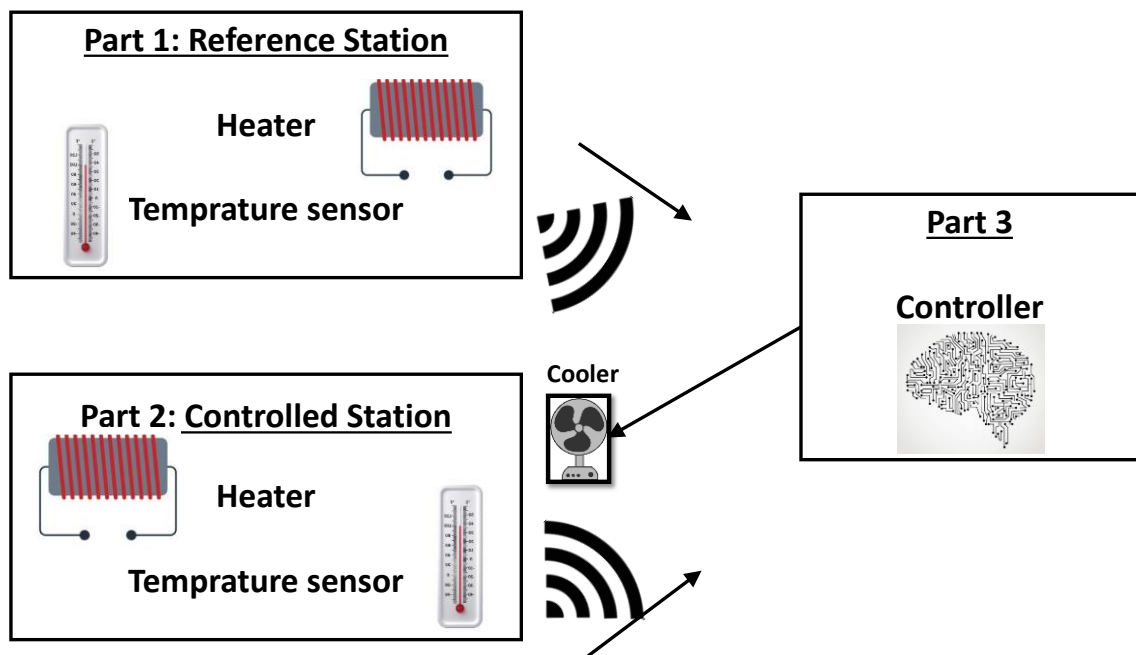

Figure 1: Block Diagram of the project
**Aim:** In this project you are going to design a system which equate the heat of two stations with a controlled cooler according to the wirelessly received heat information. The system includes 3 parts as depicted in Figure 1. The first and second parts consist of a sensor, a heater. The first part is the reference sensor part. These parts measure the temperature and sends the information wirelessly to the controller. The third part, controller, tries to balance the temperature of the first and the second parts (temperature difference less than 5 °C) by controlling the cooling element which is near to the second part. Basically, inputs of the third part are the temperature information of the first and second parts and the output is the controlling signal of the cooler.